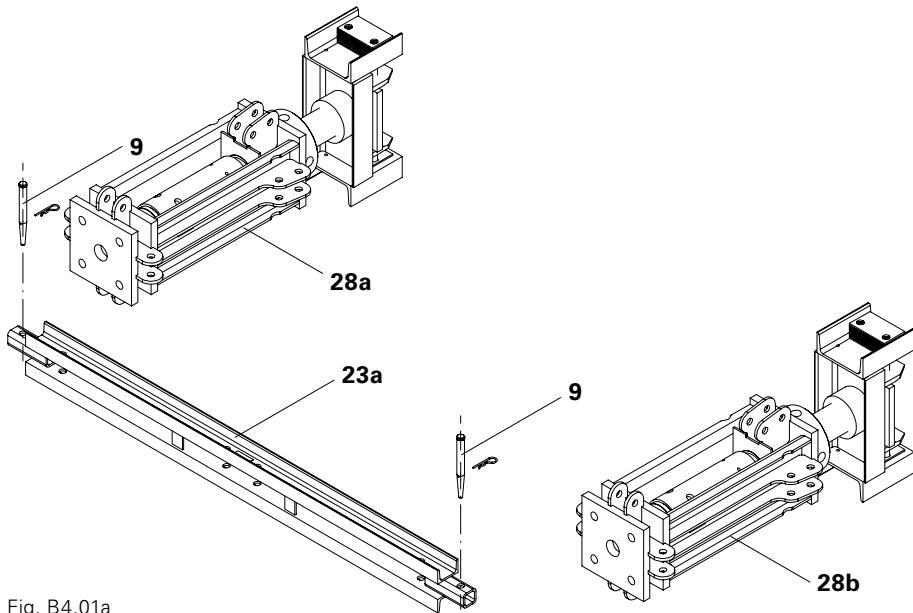
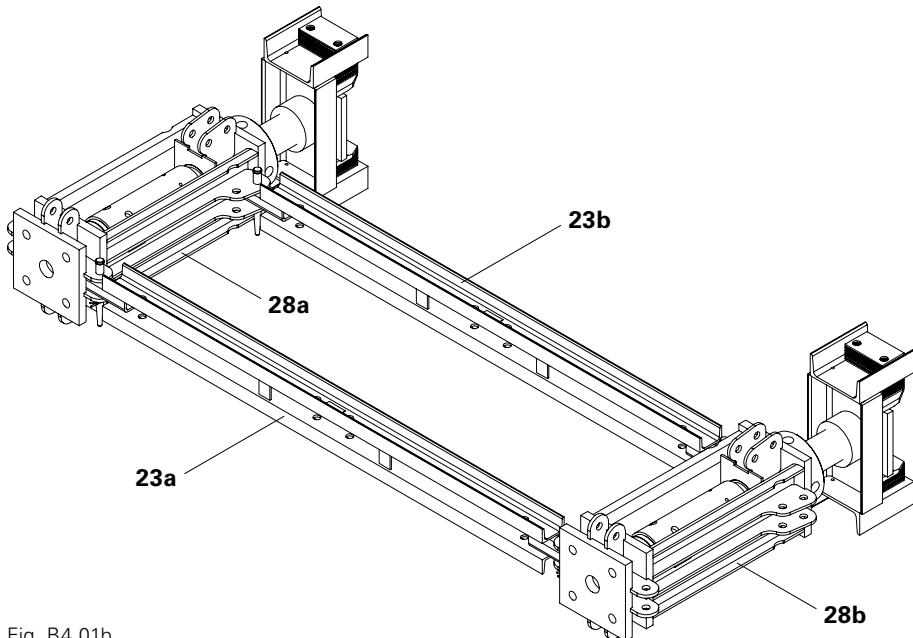

Fig. B4.01a
Fig. B4.01b
1. Place Head Spindles VST 100 (28) on timbers.
2. Connect the bottom Horizontal Ledger VST 200 (23a) to the first Head Spindle VST 100 (28a) using 1x Fitting Pin Ø 21 mm (9) and secure with Cotter Pin 4/1, galv.
3. Connect the bottom Horizontal Ledger VST 200 (23a) to the second Head Spindle VST 100 (28b) using 1x Fitting Pin Ø 21 mm (9) and secure with Cotter Pin 4/1, galv. (Fig. B4.01a)
4. Connect the top Horizontal Ledger VST 200 (23b) to the first Head Spindle VST 100 (28a) using 1x Fitting Pin Ø 21 mm (9) and secure with Cotter Pin 4/1, galv.
5. Connect the top Horizontal Ledger VST 200 (23b) to the second Head Spindle VST 100 (28b) using 1x Fitting Pin Ø 21 mm (9) and secure with Cotter Pin 4/1, galv. (Fig. B4.01b)